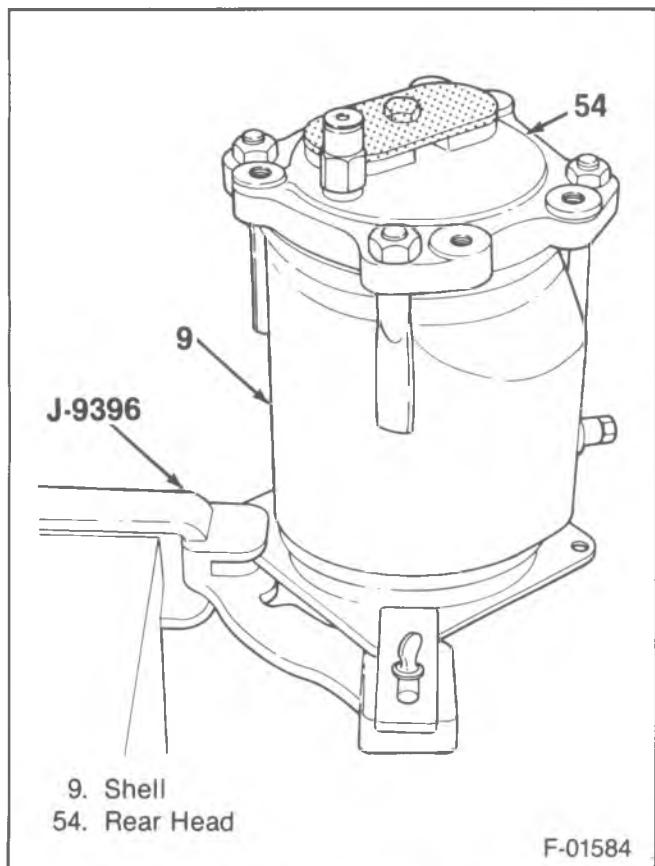
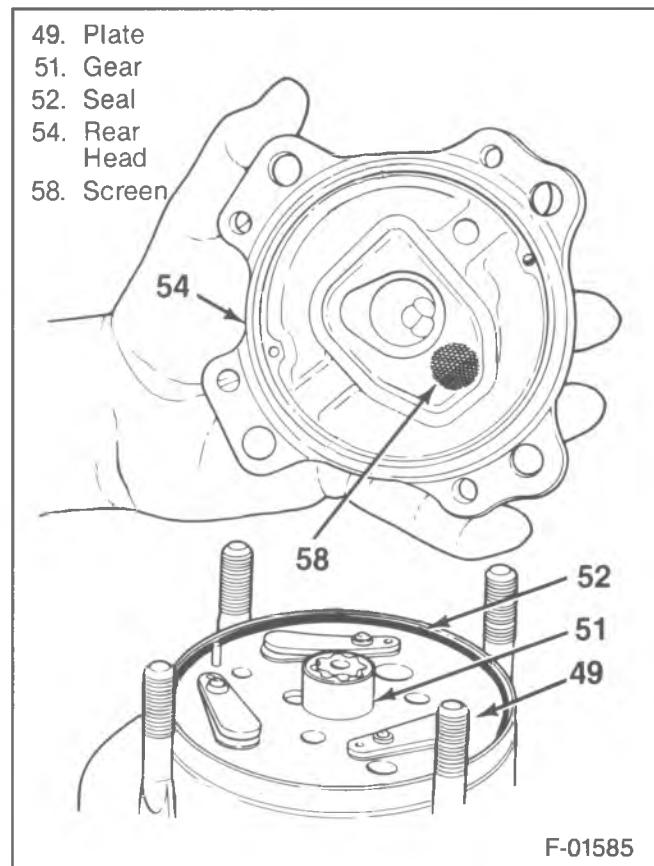
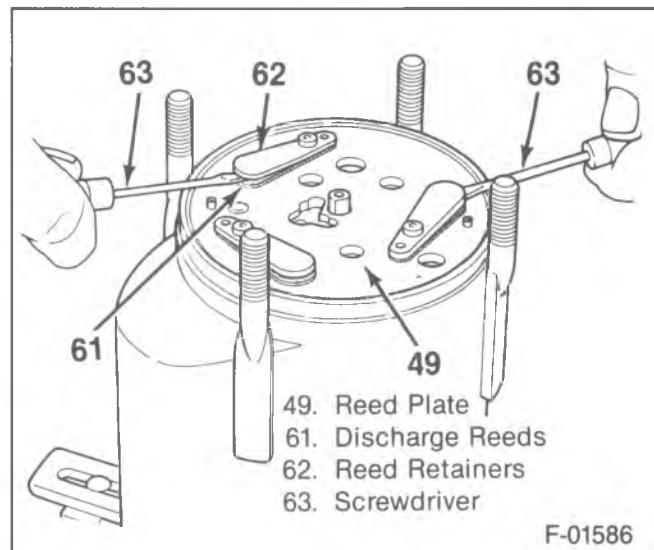

Figure 17—Compressor to J-9396
Figure 18—Removing the Rear Head
Figure 19—Removing the Rear Discharge Valve Plate and Seal
- Compressor to J-9396. Secure with thumb screws (figure 17).
- 1. Nuts (42) from the threaded studs.
- 2. Rear head (43) (figure 18).
- Tap around the edge to remove the rear head (43).
- 3. Suction screen (47).
- 5. Seal (52).
- 6. Rear discharge valve plate assembly (49) (figure 19).